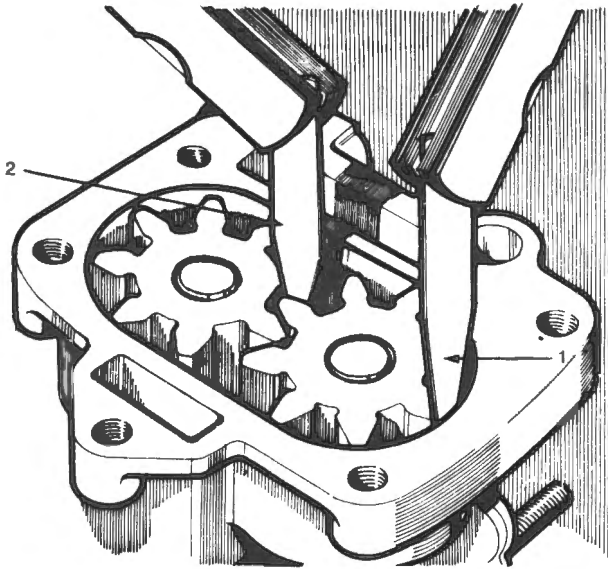

Fig. D-24
- 5 Check gear backlash as shown in Fig. D-24. If clearance is in excess of 0.25 mm (0.010 in) replace gears.